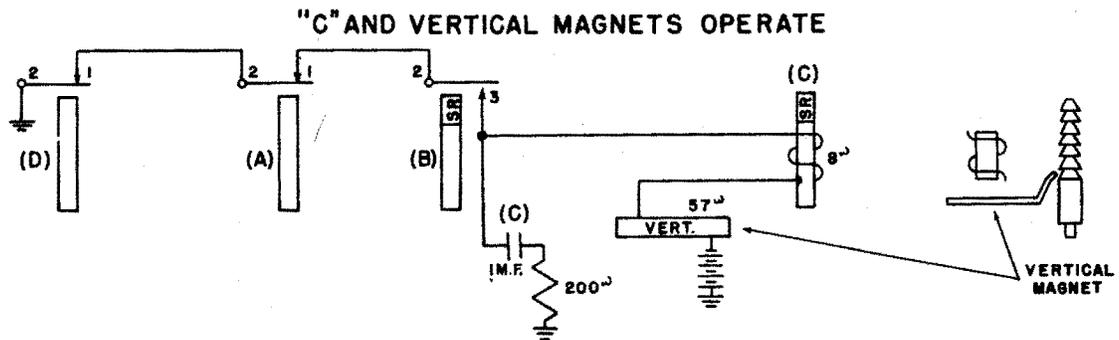

FIG. 4
The (C) relay and vertical (VERT) magnet operate (Fig. 4) from a ground on the 2-1 contacts of (D) relay, 2-1 contacts of (A) relay, 2-3 contacts of the (B) relay, 8 ohm winding of (C) relay, 57 ohm winding of the vertical (VERT) magnet to battery.